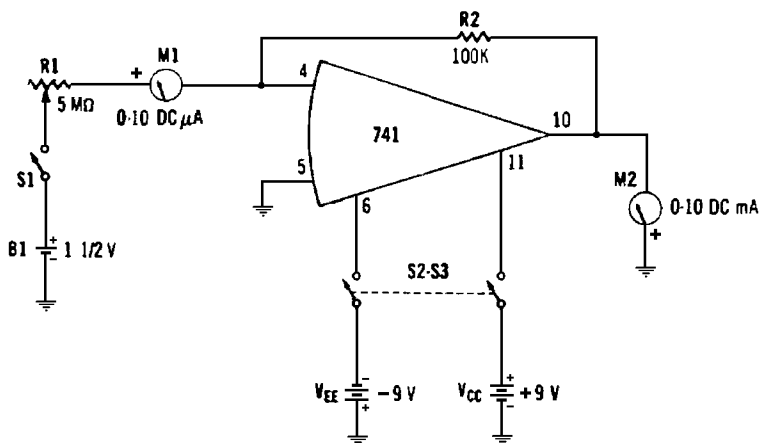

Fig. 2-29. Current gain.
### Required Equipment (Fig. 2-29)
1. With switches S1 and S2-S3 open and with potentiometer R1 set to maximum, set up the test circuit as shown in Fig. 2-29.